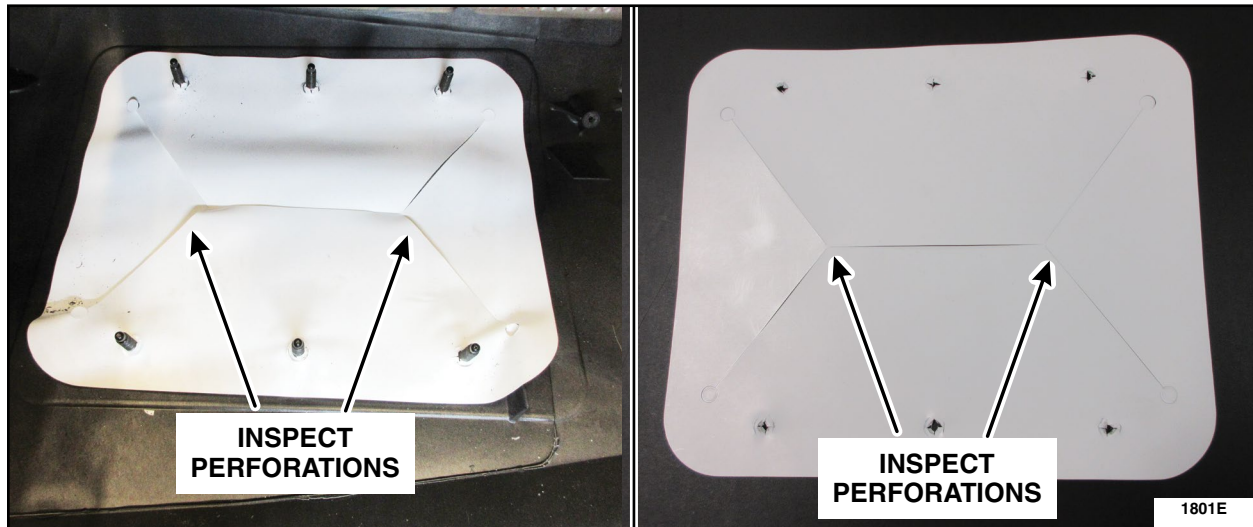

FIGURE 6
6. Inspect the white airbag cushion sheet installed on the instrument panel and the new airbag cushion sheet included with the new airbag module. See Figure 6.